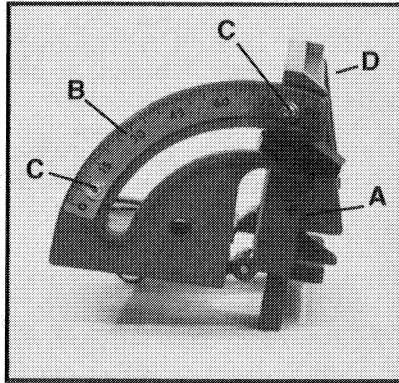

Fig. 5
The tilt fence is equipped with an adjustable scale (B), Fig. 5. This scale is factory adjusted for correct angle. If readjustment is required, proceed as follows:
3. Loosen two screws (C), Fig. 5, and slide scale (B) Fig. 5, to align the "O" line on scale with index point (D) Fig. 5. Tighten the two screws.